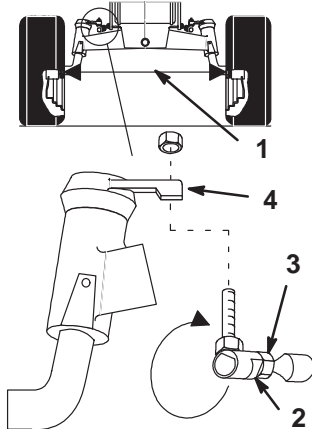

Figure 33
Maintain toe-in of the front wheels as specified. If uneven tire wear, lawn scuffing or hard steering develop adjustment may be required. Check the toe-in after every 100 operating hours or yearly, whichever occurs first (Fig. 33).
3. Measure, between the rims, at spindle level, in the front and rear of the wheels (Fig. 33).
2. Remove ball joint from one steering lever (Fig. 33).